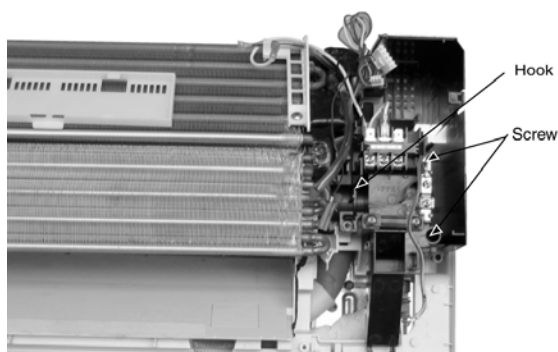

Fig. 8
- Remove indoor pipe sensor and air intake sensor from the evaporator. (Fig.8)
- Remove 2 screws on the right side of the control board. (Fig.8)
- Press down the hook on the left side of control board. (Fig.8)
- Then pull out the Control Board Complete from the unit. (Fig.8)